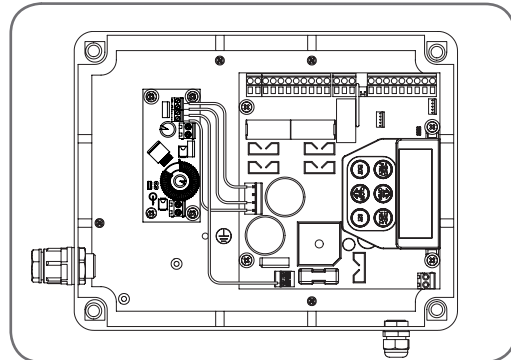

Fig 05
- The angle to tilt the solar panel for maximum exposure to the sun is determined by the following equation (Fig. 05):
3. Mount the Charger Board on the Control Box's base using four brass spacers and four (4) M4x8 screws (Fig. 05).